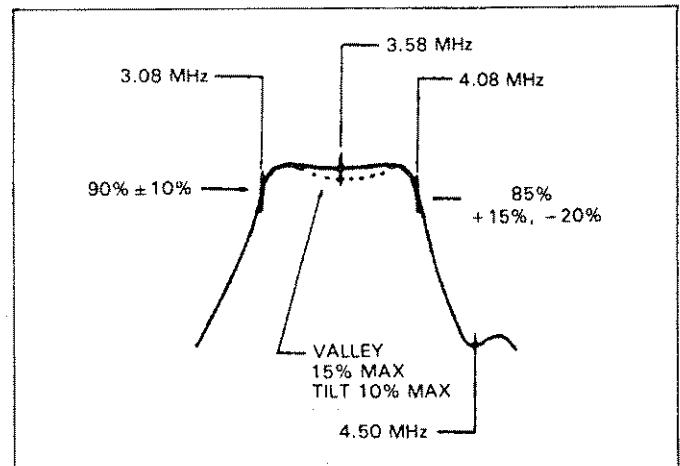

Fig. 21. Frequency Response Measurement.
### Frequency Response Measurements (refer to Fig. 21)
1. Connect audio or rf output of the sweep generator to the input of the circuit under test and the output of the test circuit to channel 2 (vertical axis) of the oscilloscope. A demodulator probe will give a "text book" frequency response display as shown in Fig. 21, but a standard probe can be used which will result in an envelope display.